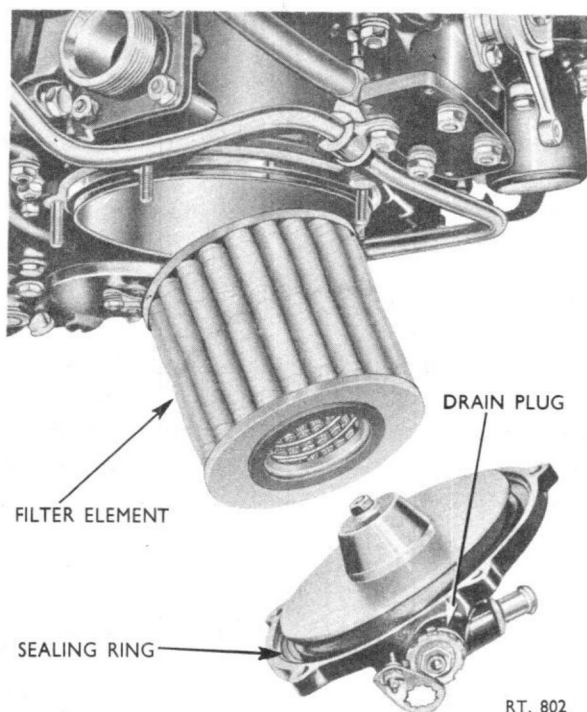

Fig. 3 Fuel filter
18. Check that the h.p. and l.p. cocks are closed and then drain the filter by removing the drain plug (fig. 3). Remove the nuts securing the cover, and withdraw the cover and element. Detach the lower plate from the cover by unscrewing the captive screw. Discard the element and the cover to housing sealing ring; clean the remaining parts.